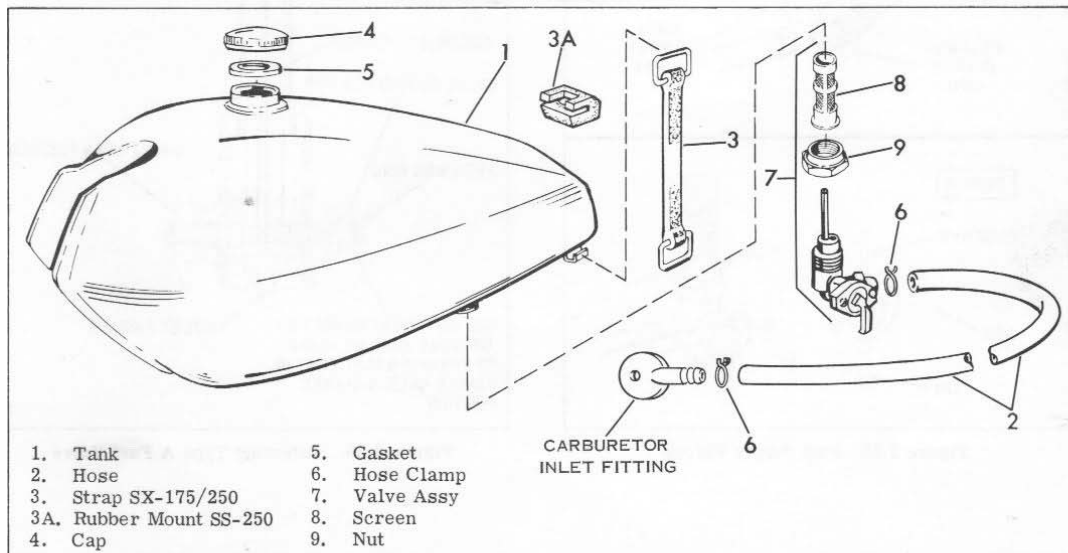

Figure 3.34. Exploded View of Gas Tank
Turn off fuel supply valve (7), Figure 3.34. Detach inlet fitting from carburetor with fuel hose (2) from tank (1) attached. Catch the small quantity of gasoline that will drain from hose to prevent a fire hazard from developing.